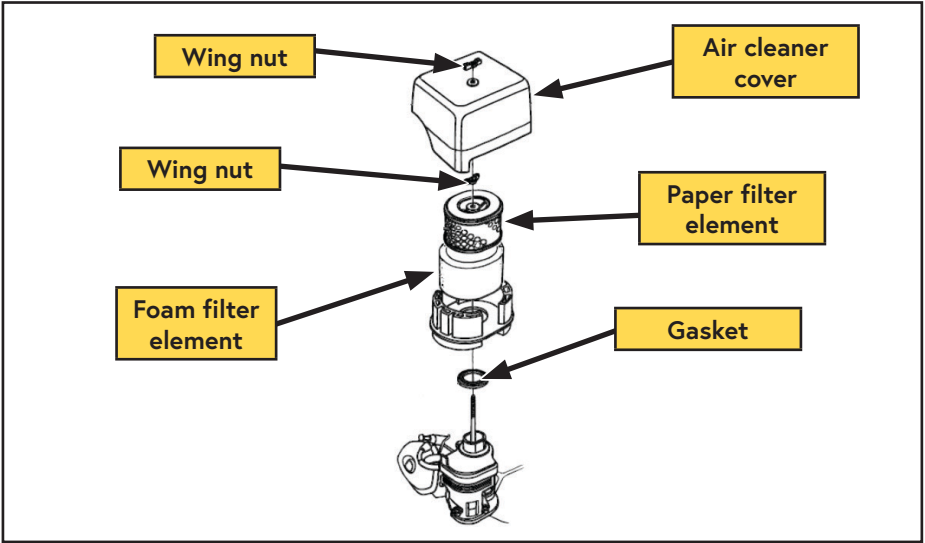

Figure 41 — Replacing the dual element air filter
- ☐ Remove the wing nut from the air cleaner cover, and remove the cover (Figure 41).